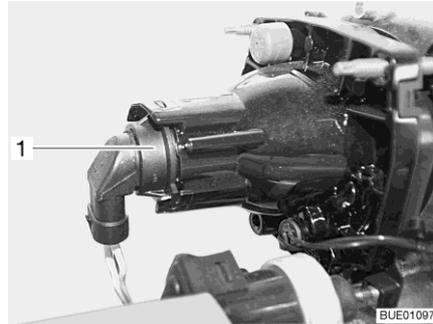

Fig. 160 Low beam/main beam/parking light
- Put your hand behind the lamp holder (Fig. 160,1).